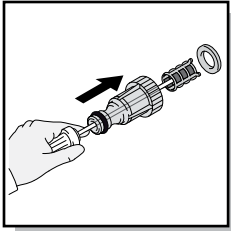

Fig. 18
- The screen inside the clear adapter should be cleaned periodically. Insert a pen or pencil in small hole at the end of the adapter. The screen filter will slide out (Fig.18). Rinse it with clean water, and then place it back in the adapter.